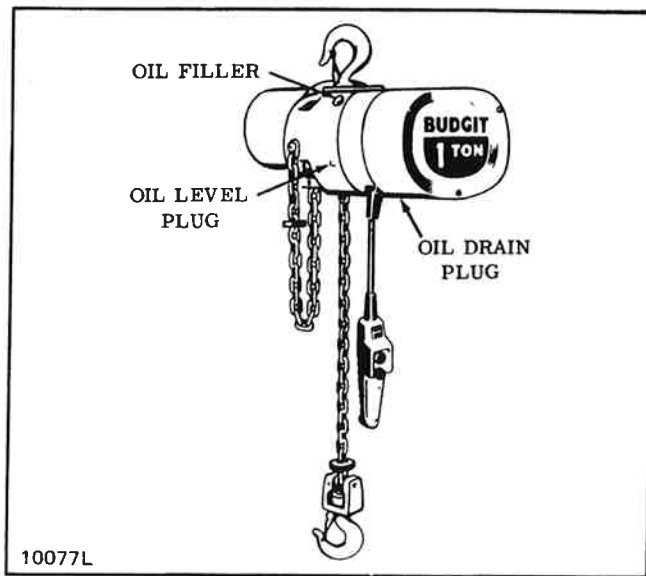

Figure 4-1. Location of Oil Filler and Plugs.
4-2. CHANGE GEAR CASE OIL (Fig. 4-1).
(1) Check to see that bolts securing motor to frame are tight. Also check for any visible damage to motor, such as a cracked end bell or dented stator housing. Replace damaged parts.
(2) Check hoist frame for signs of visible damage. If frame shows evidence of fracture, the hoist should be disassembled and inspected for further signs of damage from possible overloading. Replace damaged parts. Also check condition of limit lever.
(3) Check for possible damage to electrical compartment cover. Be sure screws holding cover are tight.
e. **Check Oil Level.** Remove oil level plug (fig. 4-1). If oil level is not even with bottom of tapped hole, add Automatic Transmission Fluid, DEXRON® II Type, to bring to proper level.